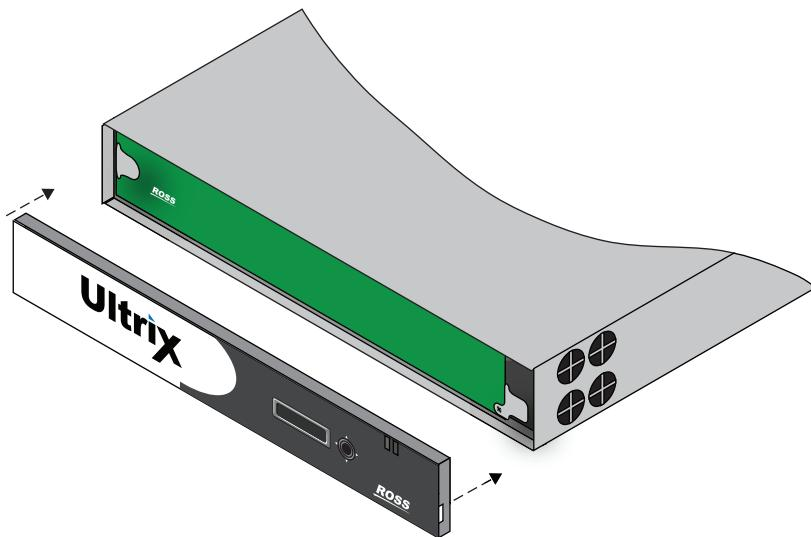

Figure 88 ULTRIX(-NS)-FR2 — Aligning the Door to the Chassis
1. Align the door to the front of the router, ensuring that the door is oriented upright, the corner with the Ultrix logo is in your left hand, and the corner with the Ross logo is in your right hand. **(Figure 88)**